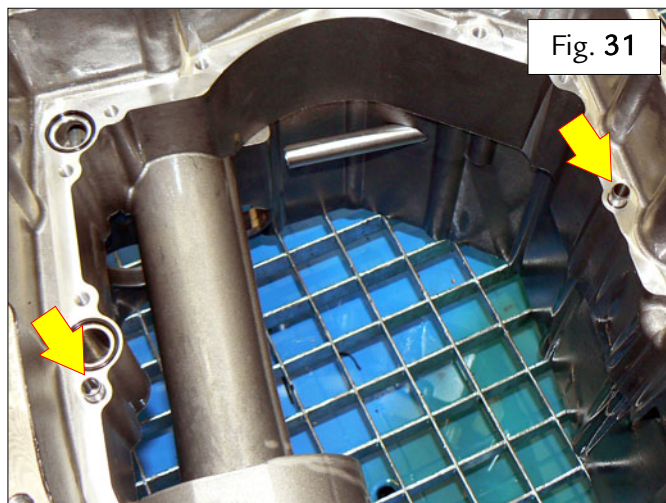

Fig. 31
- Retrieve the indicated CCP alignment pins on the differential housing – Fig. 31.